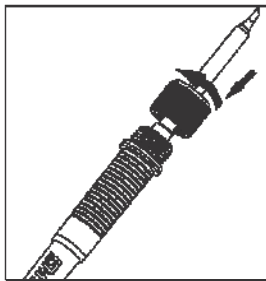

Figure 6
B. Place the nut on the heating core above the screw thread of the handle, and tighten clockwise. See Figure 6.